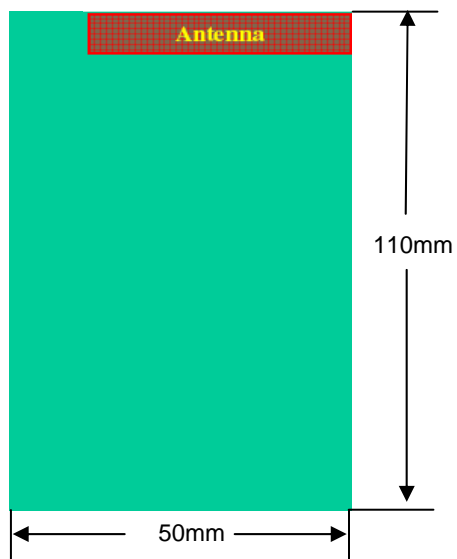

Figure 3
1. Figure 3 shows a typical landing location of a Prestta Penta-Band Embedded Cellular Antenna.